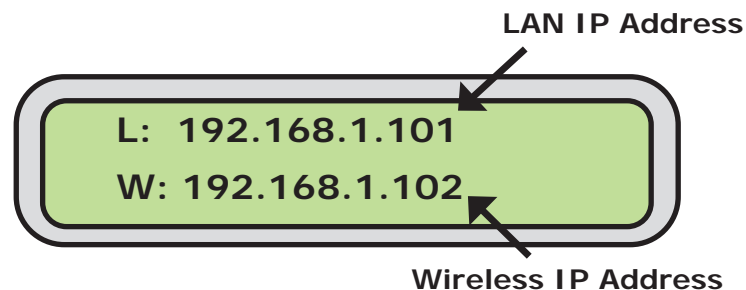
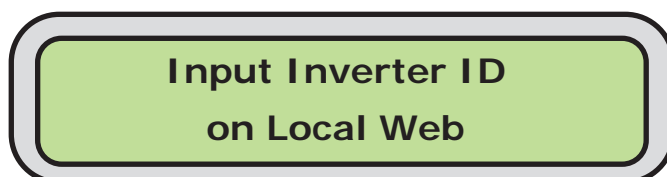
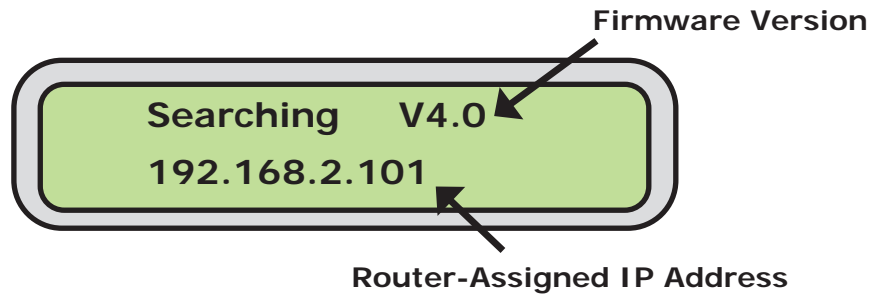

Figure 11, Available LAN/Wireless IP Addresses
Figure 12, Input Inverter ID Display
Figure 13, Subsequent Start-up Sequence Display
2. Awaiting the entering of inverter IDs (Figure 11 & Figure 12).
The display alternates (every 5 seconds) between the IP addresses (Figure 11) and an Input Inverter ID on Local Web screen (Figure 12) at this point in the process.
Note: Figures 11 & 12 only appear on power-up if the microinverter IDs have not yet been programmed into the MagWeb GT. If the microinverter IDs have been entered, Figure 13 shows.